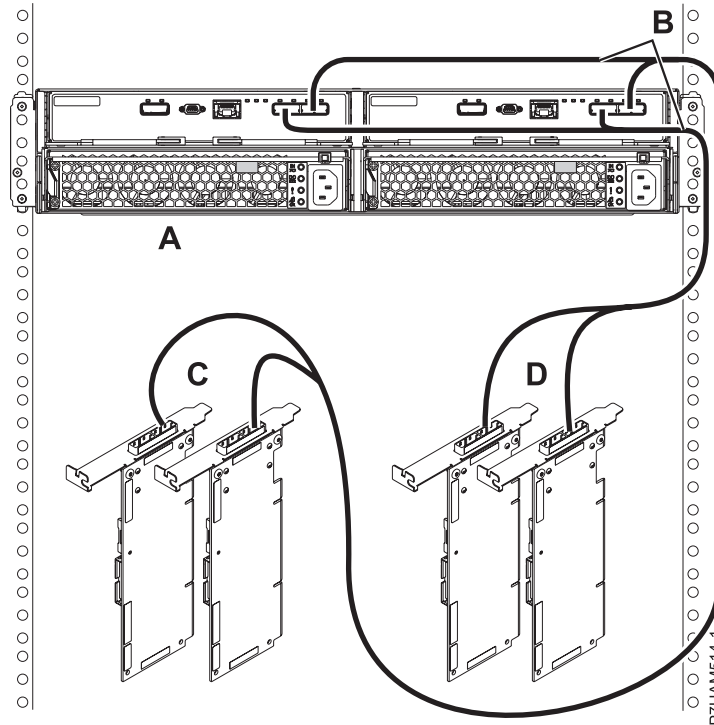

Figure 40. Mode 2 connection of one 58/87 disk drive enclosure by using X cables to two SAS adapter pairs
13. Perform the mode 2 connection of one 58/87 disk drive enclosure (A) by using X cables (B) to two SAS adapter pairs as shown in Figure 40 on page 71.